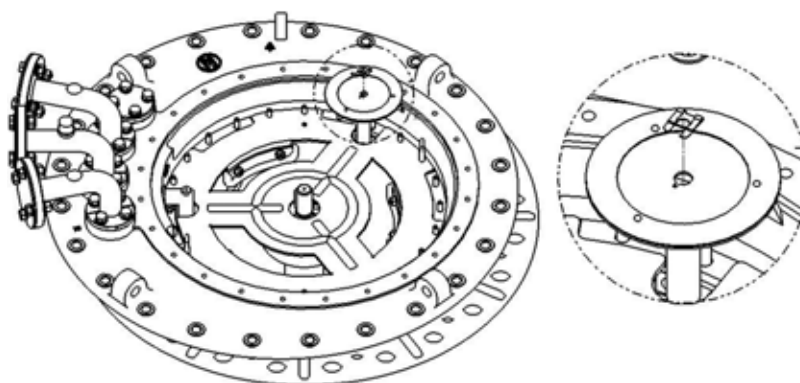

Figure 22 Remove the positioning indication disc
- 4) To remove the position indicating disc, pull out the open locking tab from the shaft end and disassemble the disc (Figure 22).